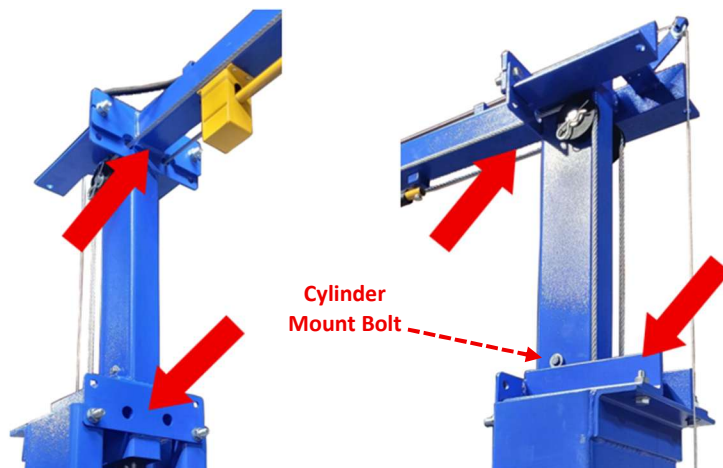

Fig. 10
11. Install the Extended Height Uprights (3) to the top of each Column, positioning the Latch Wire Bracket to the outside, as shown in **Fig. 9**. Use hardware provided with lift to secure the Uprights to tops of Columns (**Fig. 10**).
12. Install the Overhead Beam Assembly to the Extended Height Uprights, ensuring the Limit Switch Box is configured to the Mainside Column / Power Unit side. Use hardware provided with lift to secure Overhead Beam to Uprights (**Fig. 10**).